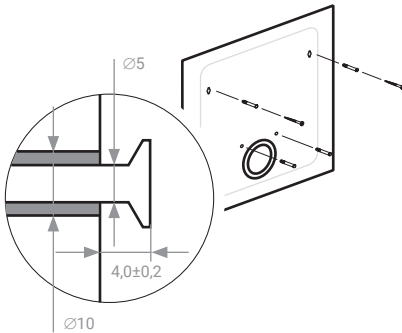

Figure 6.4 – Installation of dowels
6. Install the dowels into the holes (Fig. 6.4). Install two self-tapping screws in the holes of position 1 of the mounting template according to a selected type of placement of the device.
10. Make sure that the length by which the screw caps go beyond from the wall matches the dimensions shown in Figure 6.4. Connect the power cable to the device (being in the complete set or similar by technical characteristics). Lay it to the side of power outlet location in the deepening located on the back of the device. If required, the excess cable length can be laid in the compartment in which there is a connector for its connection. Hang up the device onto the screws using the eyes in the mounting plate of the device. Push the case of the device against the wall and from top to bottom for secure fixation.